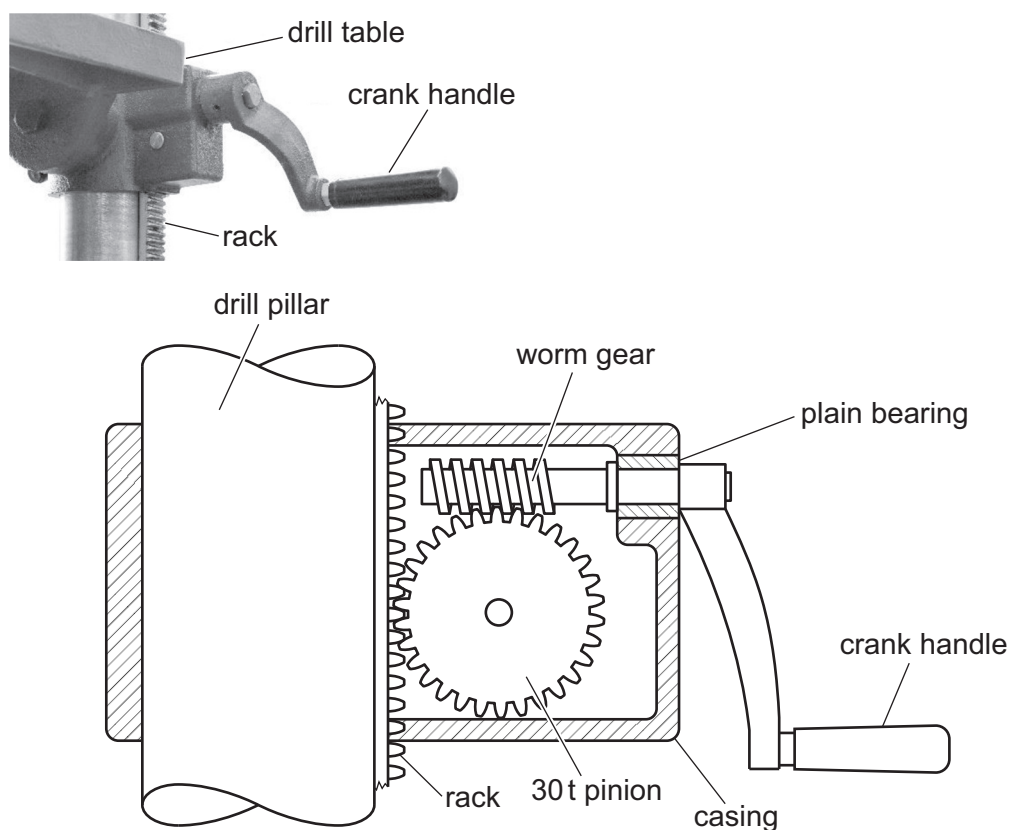

Fig. 10.2
(b) Fig. 10.2 shows part of a rack and pinion gear system for raising and lowering a drill table.
- (iii) The worm gear in Fig. 10.2 rotates in a plain bearing.
- (iv) Give **two** reasons for choosing the plain bearing shown in Fig. 10.2.